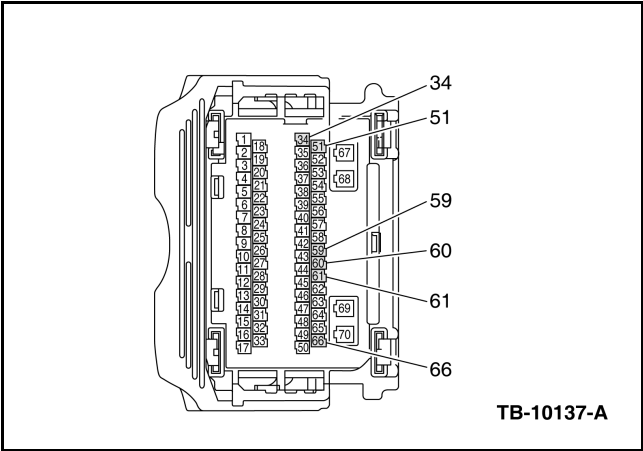
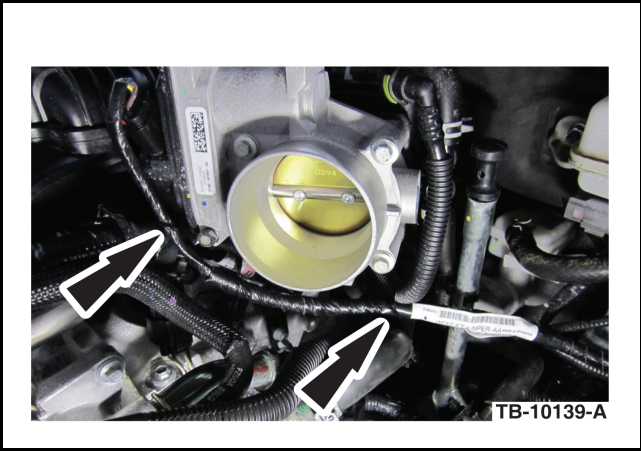

Figure 4 - Article 11-4-23
Figure 6 - Article 11-4-23
- a. Remove one (1) vehicle harness terminal and replace with one (1) service harness terminal at a time.
- 9. Using a wire terminal release tool (OTC 7740 or similar), remove female terminal pin numbers 34, 51, 59, 60, 61 and 66 from C175E. (Figures 4 and 5)
- 10. Install wire terminals from service harness into the connector matching pin number and color. (Figure 4)
- 11. Cut terminals from removed wires and install one (1) piece of heat shrink to cover all six (6) wires. Fold wire bundle back and tape to vehicle wire harness.
- 17. Disconnect throttle body (TB) connector C1568.
- 19. Install one (1) piece of heat shrink to cover all six (6) wires. Fold wire bundle back and tape to vehicle wire harness.
- 20. Route service harness under TB and secure with tie straps. (Figure 6)